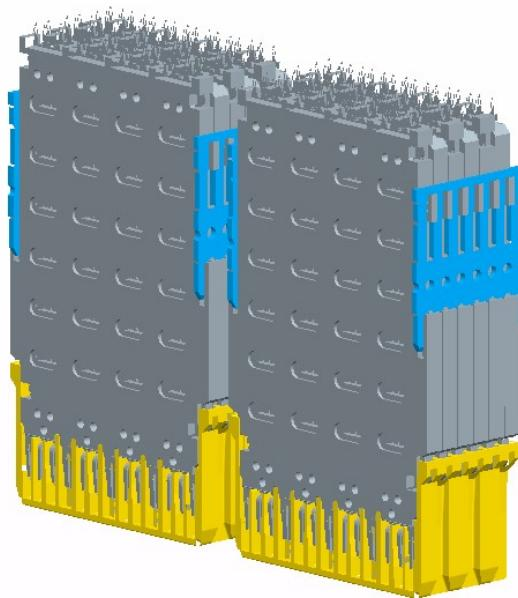

Figure 15: XCede Stacker turned 90 degrees
- 4.4.2 XCede mezzanine connectors can be in parallel slot configurations (preferred) and rotated 90 degrees see Figure 15.